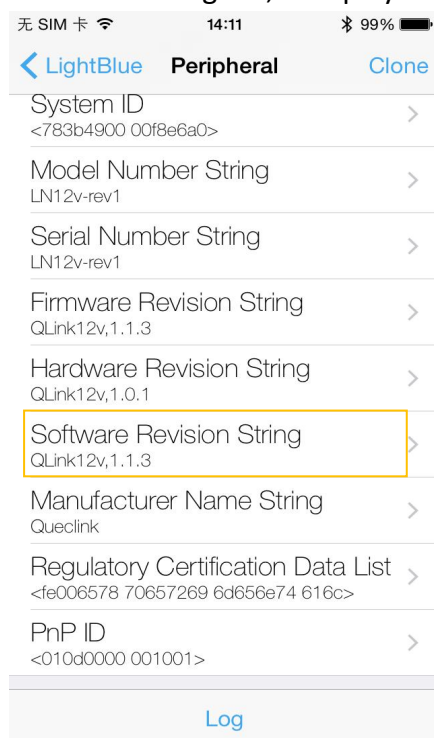

Figure 6
- Read function. Look at figure 6 and figure 7, click "Soft Revision String", then click "Read again", if display a right string which indicate OK.